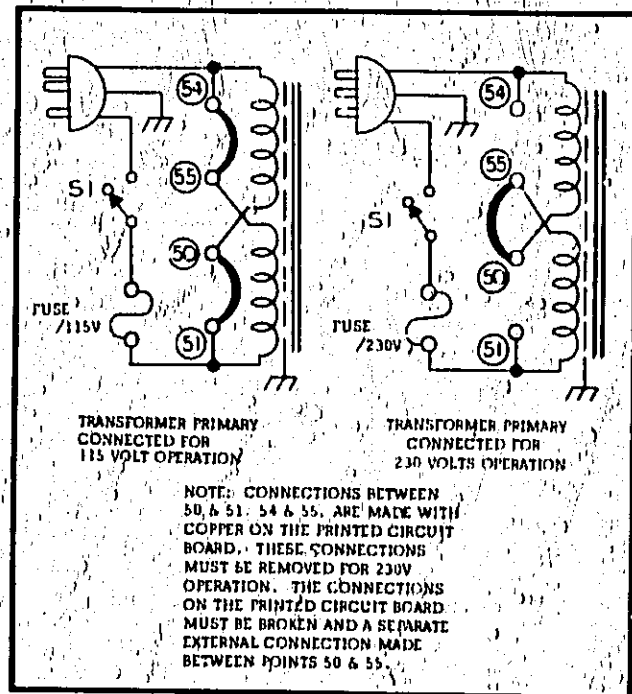

Figure 2-3. Primary Connections
2-17 CONNECTIONS FOR 230 VOLT OPERATION (See Figure 2-3)
b. Break the copper between 54 and 55 and also between 50 and 51 on the printed circuit board. These are shown in Figure 2-3, and are labeled on copper side of printed circuit board.